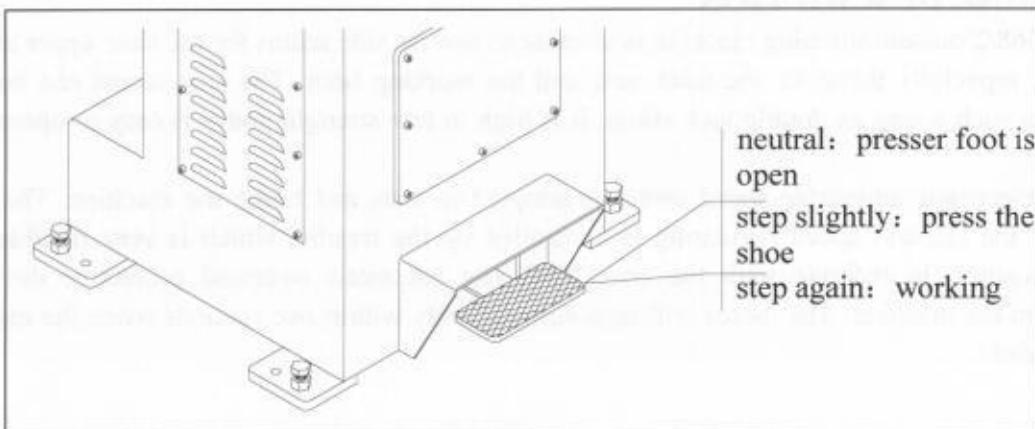

Fig.1
3.3 Operate the start pedal. (**Fig.1**)